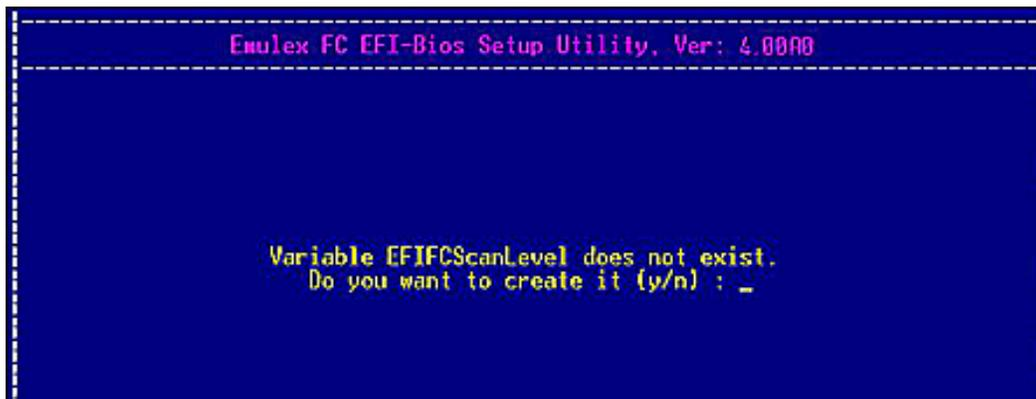

Figure 39: No Existing EFIFCScanLevel Variable screen
- If the EFIFCScanLevel variable does not exist in the EFI BIOS NVRAM store, the EFIBoot configuration utility prompts you to create it, as shown in Figure 39.